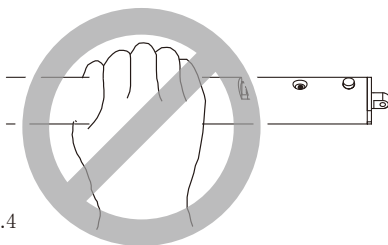

図 4 Fig.4
有効長線上を握らないと正しいトルク値が得られません。(図4)
- Do not use without the extension handle. Unless operator grips an effective length line on the handle, the proper torque value is not acquired.(Fig.4)